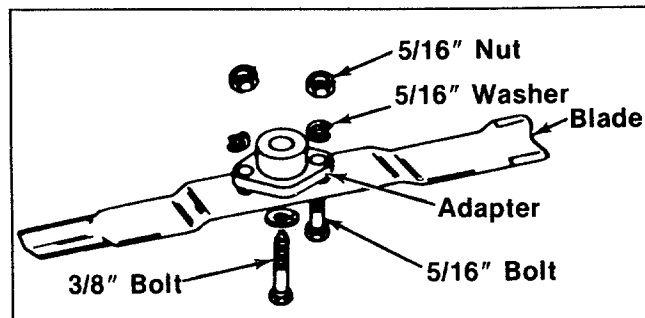

FIGURE 21. BLADE REMOVAL
1. Remove the large bolt and lock washer which holds the blade and adapter to the blade spindle. See figure 21.
3. If the blade or blade adapter needs replacing, remove the two small bolts, lock washers and nuts which hold the blade to the adapter. See figure 21.